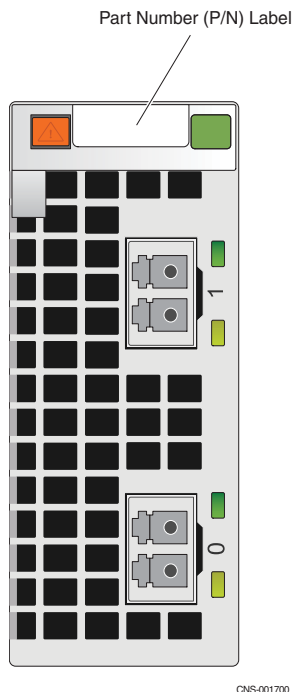

Figure 22 Example of the two-port 10-Gb/s optical (w/iSCSI protocol) I/O module
2. This part is not shown in the example Data Mover enclosure illustration in Figure 18 on page 19. For a closer view, go to Figure 22 on page 25.
Figure 22 shows the part number label location on the two-port 10-Gb/s optical (w/iSCSI protocol) I/O module (labeled **10 GbE** on the latch handle).